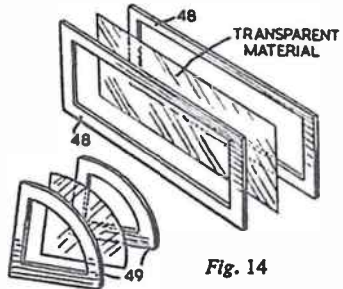

Fig. 14
The windscreen is made from transparent material sandwiched between pieces of plywood. Take two pieces (48) cut from thin plywood, and between them glue a piece of the 'window' as in Fig. 14. Repeat this, making two